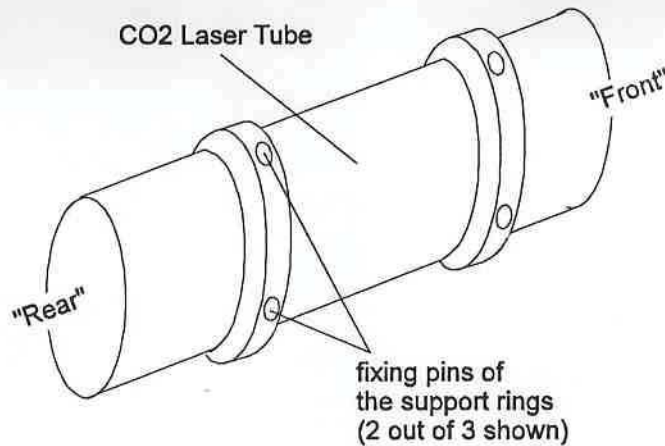

FIGURE 4-22C. LASER TUBE, WITH FIXING PINS
7. While removing the tube from the bench, try not to let the fixing pins of the supporting rings fall out, as they are difficult to replace (see Figure 4-22C).
6. While inserting the tube into the bench, do not allow the fixing pins of the supporting rings to fall out. These pins are the contact points between the laser tube and the securing brackets, and one of them (for each ring) contains a rubber O-ring (see Figure 4-22C).